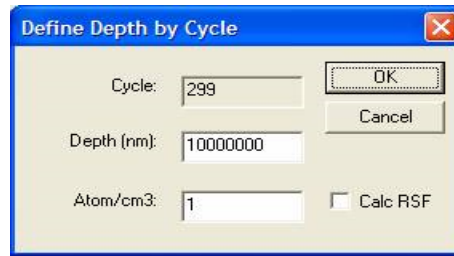

Figure 4
- The third method for computing the RSF is via a known implant depth and atom density. The button to the right of the Depth field, namely,  results in a dialog window in which a depth and/or a peak intensity can be entered (Figure 4). The position of the implant is defined using the Matrix Index table by making a single selection in that table. The appropriate cycle can be identified by left-clicking on the peak in the left-hand-side active tile. The Matrix Index table scrolls to show the cycle corresponding to the mouse selection and the table entry is therefore offered for selection prior to invoking the Define Depth by Cycle dialog window in Figure 4. If the correct depth and corresponding atoms per cc are entered, the Calc RSF tick box is ticked and the OK button is pressed, the RSF, Depth and Sputter Rate fields will be updated.